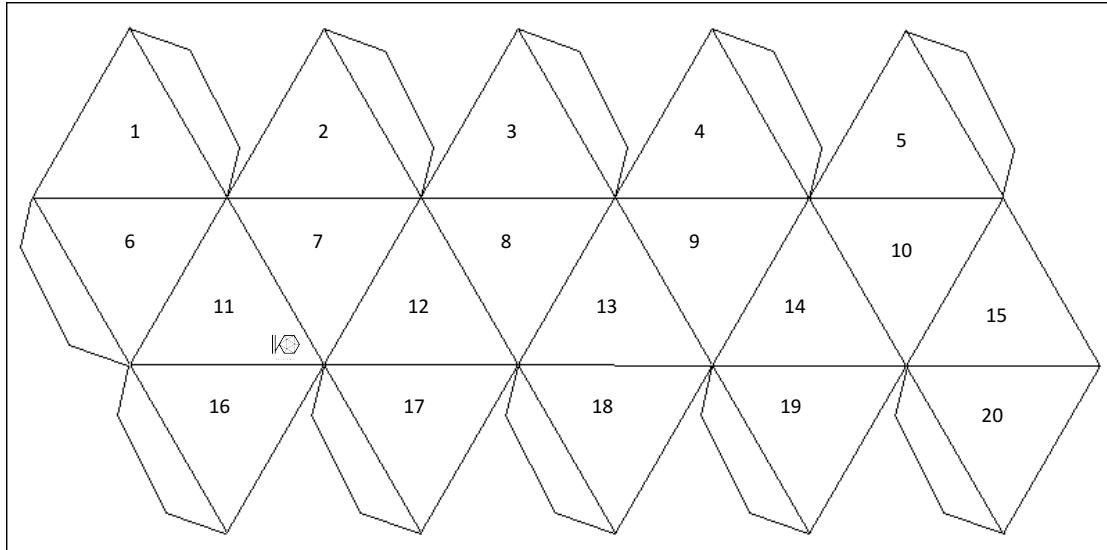

Figure 18: IKO net with chosen numbering convention indicating triangle 11 with the 'IKO by IEM and sonible'-badge.
Thus, the IKO loudspeaker exhibits a specific loudspeaker (LS) numbering scheme that is depicted in Fig. 17 and conveniently as net view in Fig. 18. The proposed Ambisonics processing is strictly related to that scheme. Make sure that you have the depictions of the IKO numbering scheme at hand, when going through the next statements.
With four important rules the IKO numbering scheme can be deduced. The first three rules are, cf. Fig. 17 top/left, Fig. 15 and Fig. 18:
- (iv) Adjacent triangles between the upper spherical cap and the upper horizontal band or the lower horizontal band and the lower spherical cap exhibit a numbering offset of 5, cf. Fig. 18.